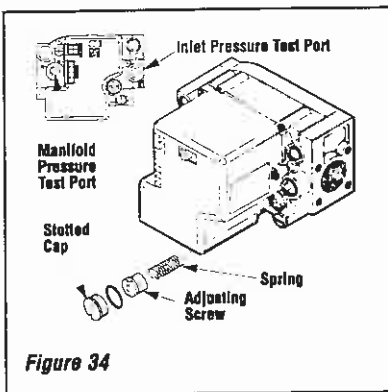

Figure 34
**Step 5. Honeywell Electronic Valves -** See Figure 34 on page 15 and the instructions provided with the kit. Remove the slotted cap screw, o-ring, pressure-regulating adjusting screw and spring. Retain all parts for possible later use. Install new components from the kit. Black cap and red spring for propane gas units. Silver cap and stainless steel spring for natural gas units. Before installing the cap, attach manometer to the manifold side pressure test fitting and adjust screw until pressure reads 3.5 inches water column (0.87 kPa) for natural gas, and 10.0 inches water column (2.49 kPa) for propane gas.